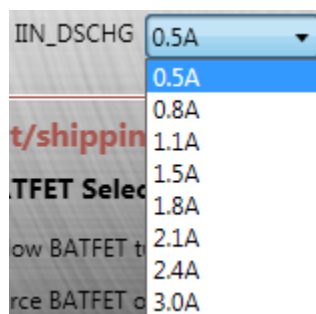

Figure 23: OTG Current Limit Setting
6. Set the OTG current limit (see Figure 23). The OTG current limit ranges between 0.5A and 3.0A, and the default value is 0.5A.